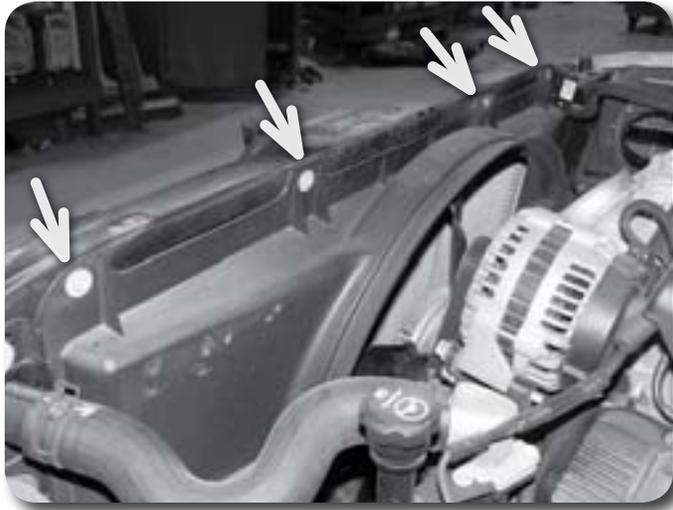

Figure 5
7. Remove the bolts (2 or 4, depending on vehicle) mounting the top of the fan shroud to the core support Figure 5. Save bolts.